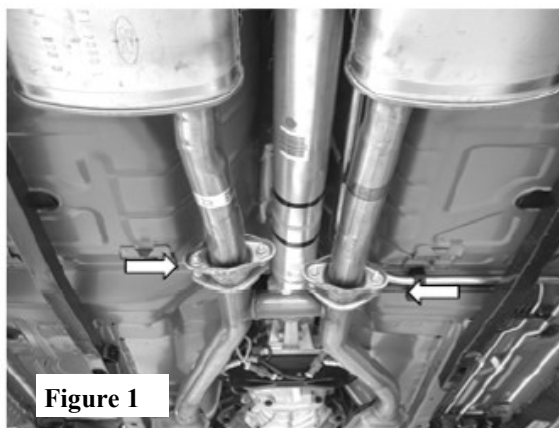

Figure 1
1. Unbolt the flanges located in of each muffler/tailpipe assembly. (See Fig.1)